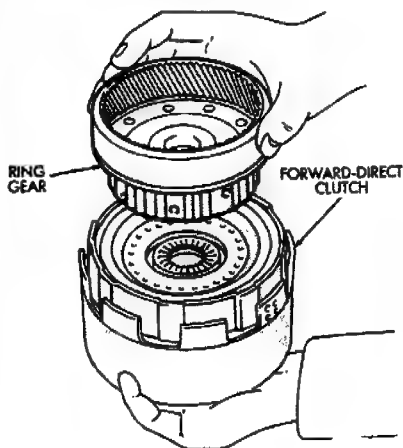

Fig. 27 Installing Front Planetary Ring Gear
(34) Align and install front planetary ring gear in forward-direct clutch (Fig. 27).